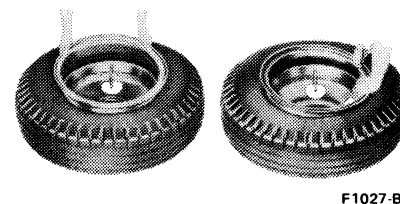

FIG. 2 Positioning and Starting Ring—Two-Piece Rim
1. Place tire on rim so that valve is in line with rim slot and insert valve through the slot (Fig. 2). Force first bead down into well of rim just to side of valve. Mount first bead over rim lip with rim tool, progressing around the tire.